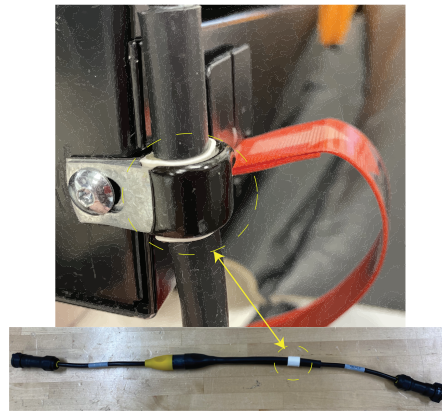

Figure 16 – Reinstall magnetic break away cable
- When you reinstall, center the metal cable clamp over the white heat shrink. Secure to the foot box (Figure 16).
- Torque the screw (B) 22 ± 4 in-lb, to the cable clamp when you reinstall.